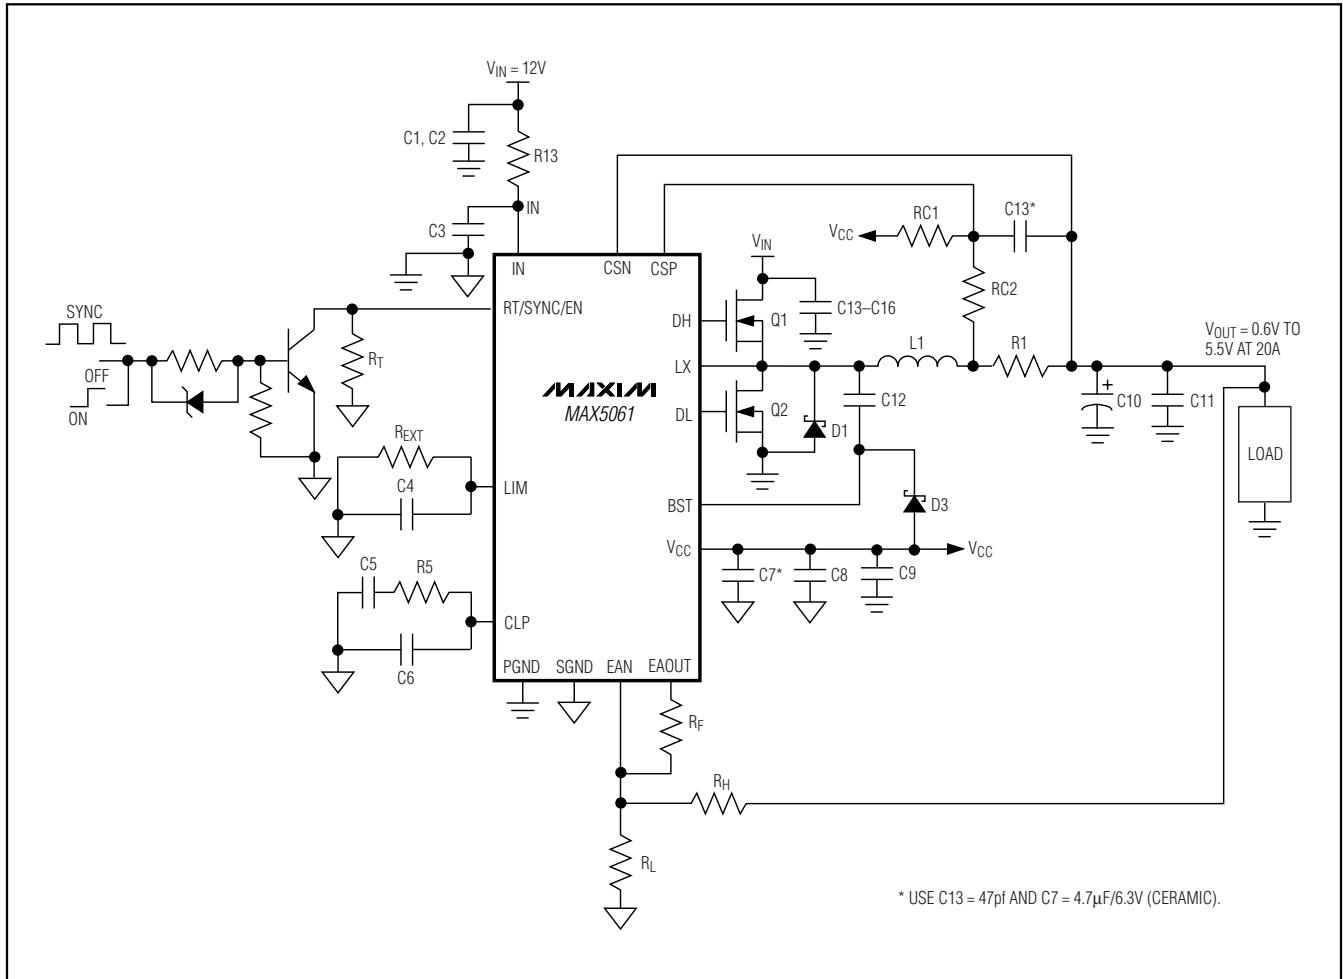

Figure 2. Typical Application Circuit, $V_{IN} = +12V$ (MAX5061)
The error amplifier output (EAOUT), which is compared against the output of the current amplifier (CA), may not reduce down to zero due to the saturation voltage of its output stage. This requires the converter to be loaded with a minimum load to prevent it from slipping out of regulation. The minimum load requirement can be eliminated by adding some DC bias voltage between CSP and CSN. See the *Typical Application Circuit* (Figure 2). Use RC1 and RC2 to generate approximately 3mV DC bias at CSP with respect to CSN. Use the following equation to calculate the values of RC1 and RC2.